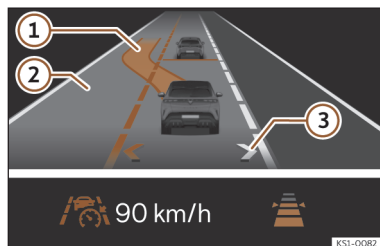

Fig. 129 On the instrument cluster display: lane change assist display (schematic representation).
This activates lane assist. The arrows of your own lane on the instrument cluster display are grey >>> **Fig. 129 ②**
If the system detects no objects in the detection field of the sensor system and an assisted lane change to an adjacent lane is possible, the corresponding lane is shown in the instrument cluster display next to the driver's own lane. The arrow on the corresponding side of the lane is displayed in white >>> **Fig. 129 ②**.